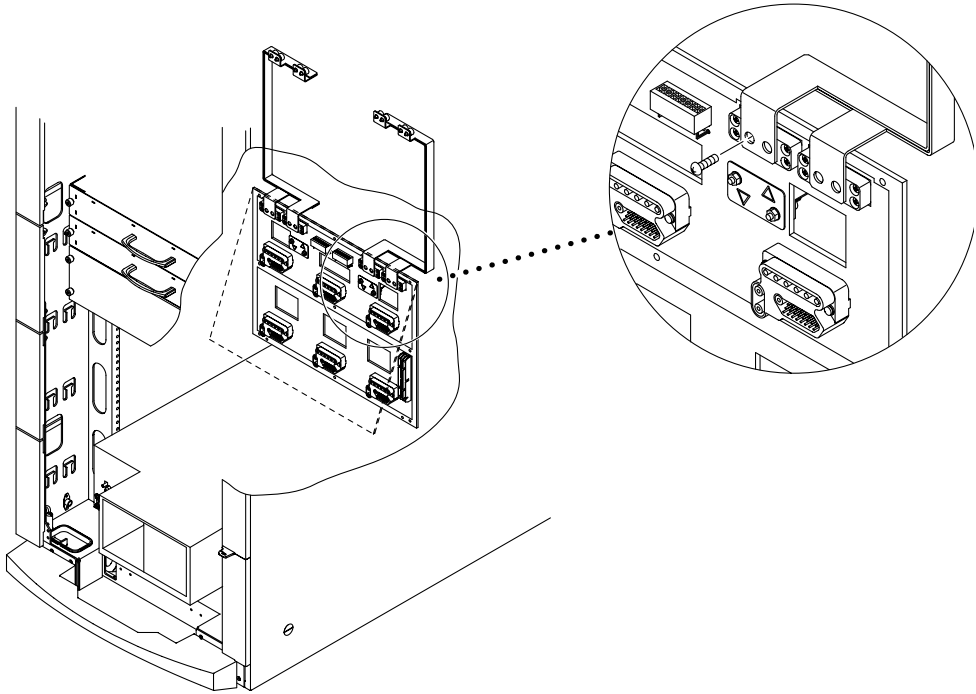

FIGURE 12-12 Disconnecting the Screws Securing the Power Centerplane Bus Bars
d. Remove the bus bar (FIGURE 12-12).
2. Install the left and right bus bars as follows (FIGURE 12-12 on page 12-10):